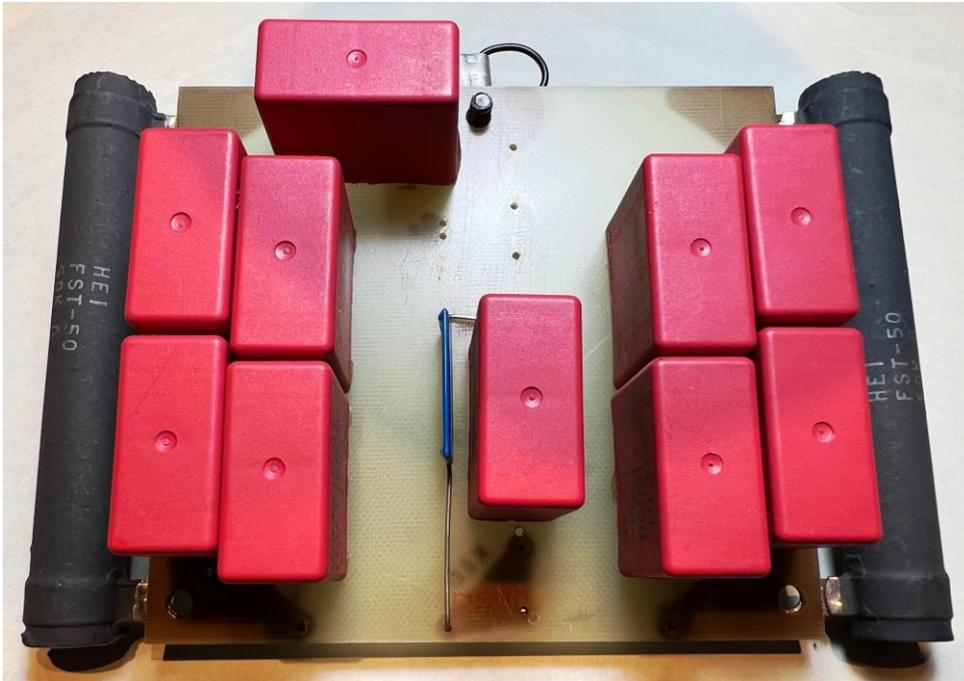

Figure 9. Bottom side of rebuilt high-voltage board (added 1st capacitor in centre, added 2nd capacitor at top-left).
impact and was probably sufficient. Nevertheless, I left the circuit as is with both WIMA polypropylene capacitors connected (Fig. 9).
- To double the voltage rating and achieve a wider safety margin, capacitors C4 and C5 were configured as a set of 4 (total 8 for one board) in a series/parallel configuration (Fig. 9), providing 0.01 μF with effective voltage rating of 12 kV DC and 1400 VAC RMS.
- As mentioned, to double the voltage rating and achieve a wider safety margin, the WIMA high-voltage audio capacitors rated 6 kV DC and 700 VAC RMS were configured as a set of 4 (total 8 for one board) in a series/parallel configuration (Fig. 9), providing 0.01 uF with effective voltage rating of 12 kV DC and 1400 VAC RMS.